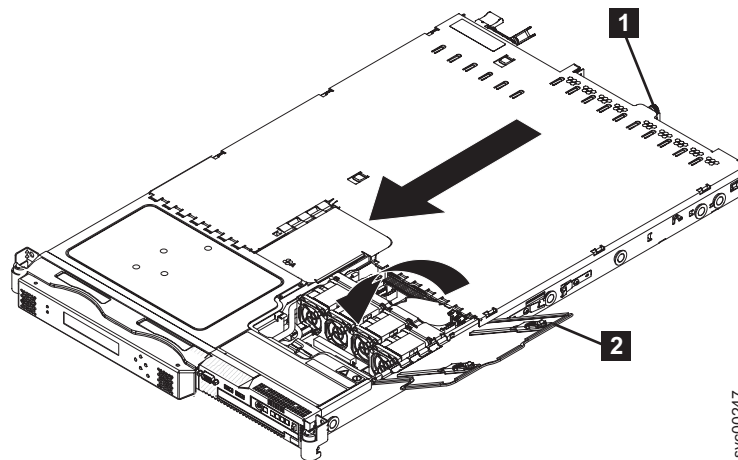

Figure 133. SAN Volume Controller 2145-8G4 with the fan door open
3. Tighten the thumbscrew **1**, which is shown in Figure 133, until the cover correctly engages all the inset tabs on the SAN Volume Controller 2145-8G4.